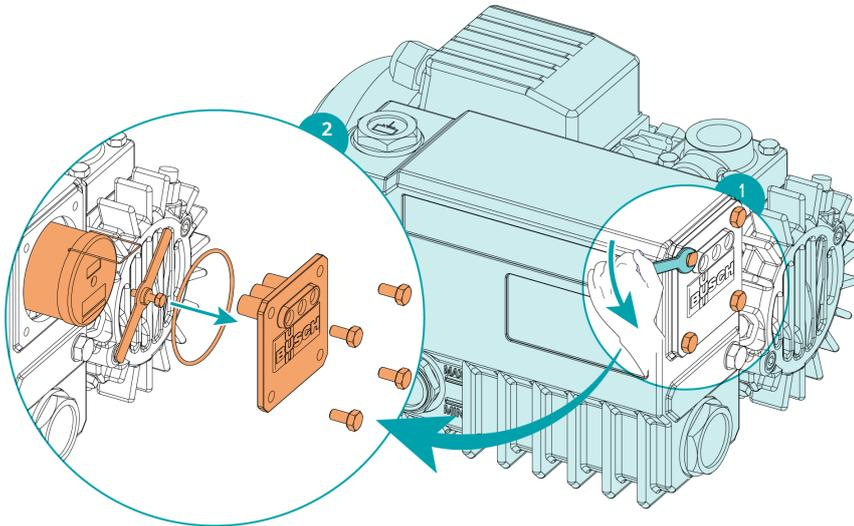

Fig. 33: Exhaust filter removal - illustration (source Busch Instruction no. R5 KB KC 0010-0016 E no. 0870169526)
1. To remove the used filter follow the graphical instruction presented in the Fig.33